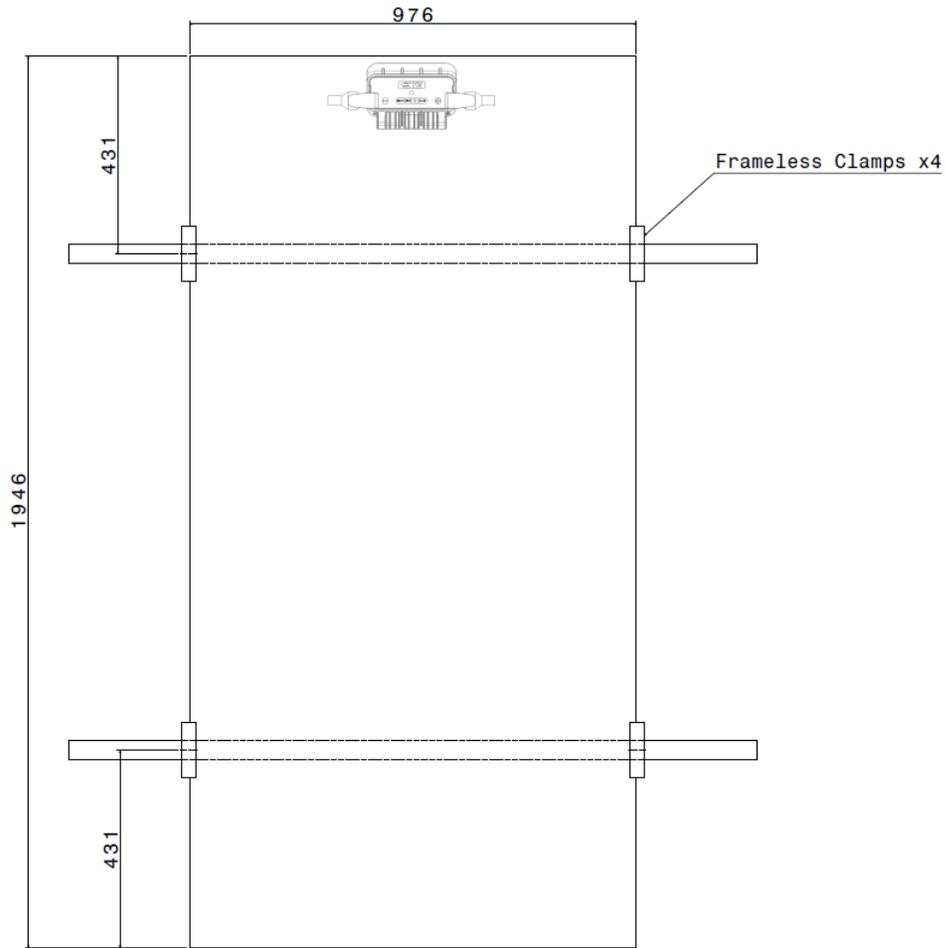

Figure 1
- SmartSilicon® GxB 72-cell Series Modules should be mounted at the four (4) positions indicated in the drawing below.
- For flush-mount residential applications, the modules can be mounted with rails running across the modules (Figure 1). The modules must be installed using 120mm long Haticon mounting clamps (80-400-010, 80-400-011) and rails that are manufactured by Haticon Inc. Alternative mounting clamps and rails can be used, provided they have same or better performance as compared to Haticon clamps and rails specified above.